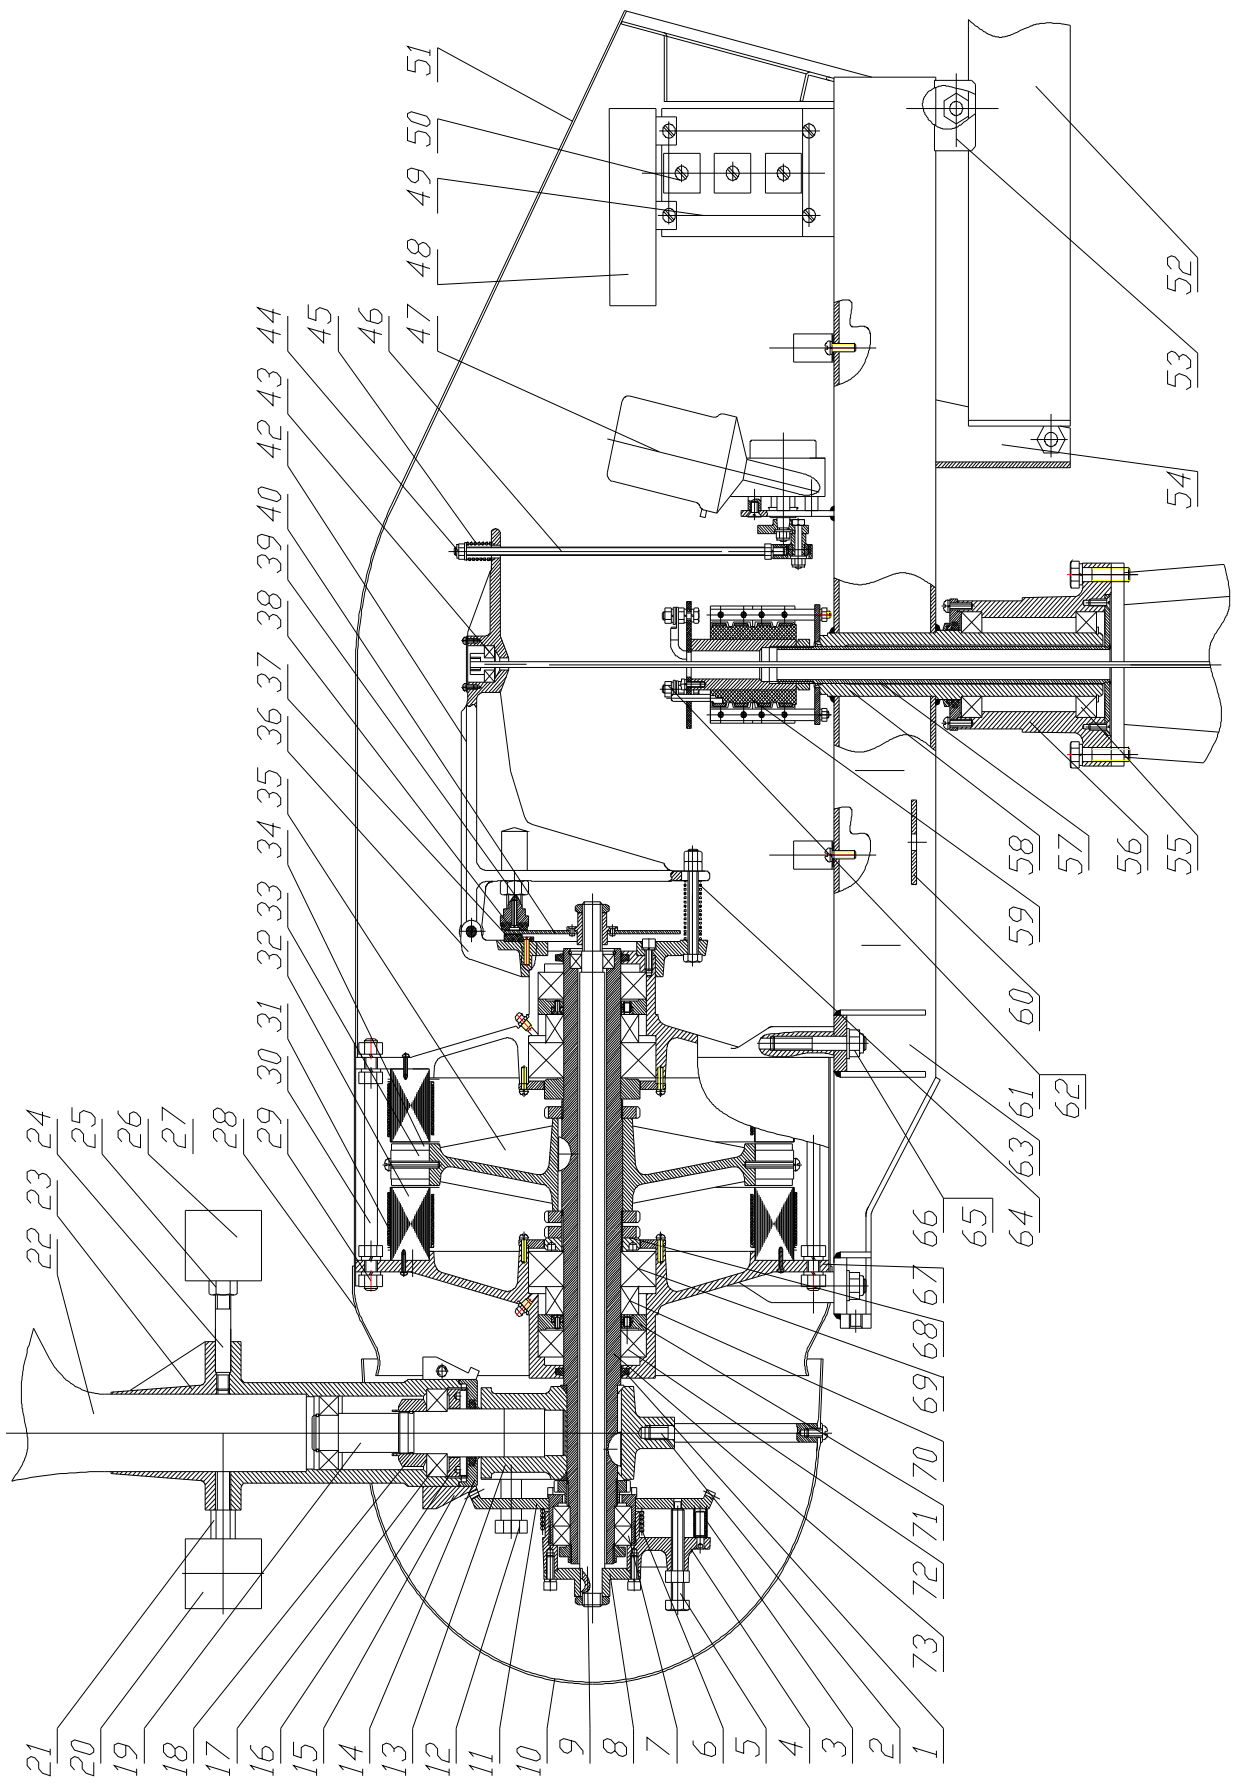

Fig. 2
Design of FLAMINGO-AERO-4.4 wind turbine is shown on the figure 2. All units are installed on the steel fabricated (welded) frame.
Elements to designs (Fig. 2):
11. Examine the brake disk node of wind vane (feather) system. The clearance between disk and friction lining should be in the limits 0.5 – 1.2 mm. Pressing manually on the brake lever, check the ease of its motion. After stop pressing, the lever should go back to the initial position by the spring. For regulation the clearance, loose the check (counter) nut and turn the disc over on the auxiliary roller until you'll get the necessary spacing. Stream to the smallest clearance. Hold the disk hub and tighten check (counter) nut with the tightening torque is 75 – 90 N·m. The clearance between disk and friction lining is regulated by screwing/unscrewing of the bracket (39). (Fig.2). Tightening torque is 30 – 40 N·m.
12. Examine the electric wiring. To observe a polarity and energize the power cable with constant voltage 48 V. The source should give a current not less than 10 A. Check the forced wind vane (feathering) system's electric drive. During switching on the cover of on-board electronic block the output shaft driving gear output shaft should turn over on 180°. During rod travel (46) down, at the end of motion the spring (45) snug occurs. This force breaks the return spring (64) force and leads to pressing the disk edge by the friction linings. The pressing force is checked during main shaft turn over by the front case bracket. There should be a force 30 – 40 N at the end of the bracket. Do 3-4 switches to check the electric drive. Transfer the mechanism into “out of feather”.